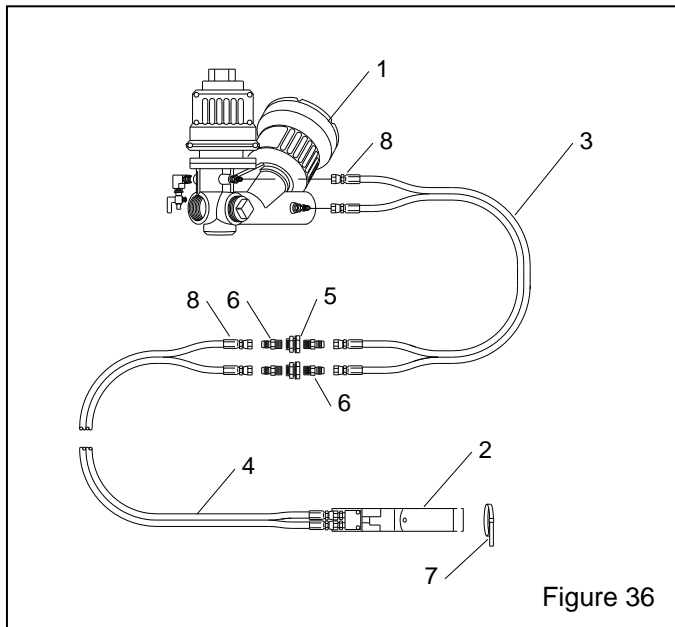

Figure 36
8.3 Remote Control System Parts, Figure 36